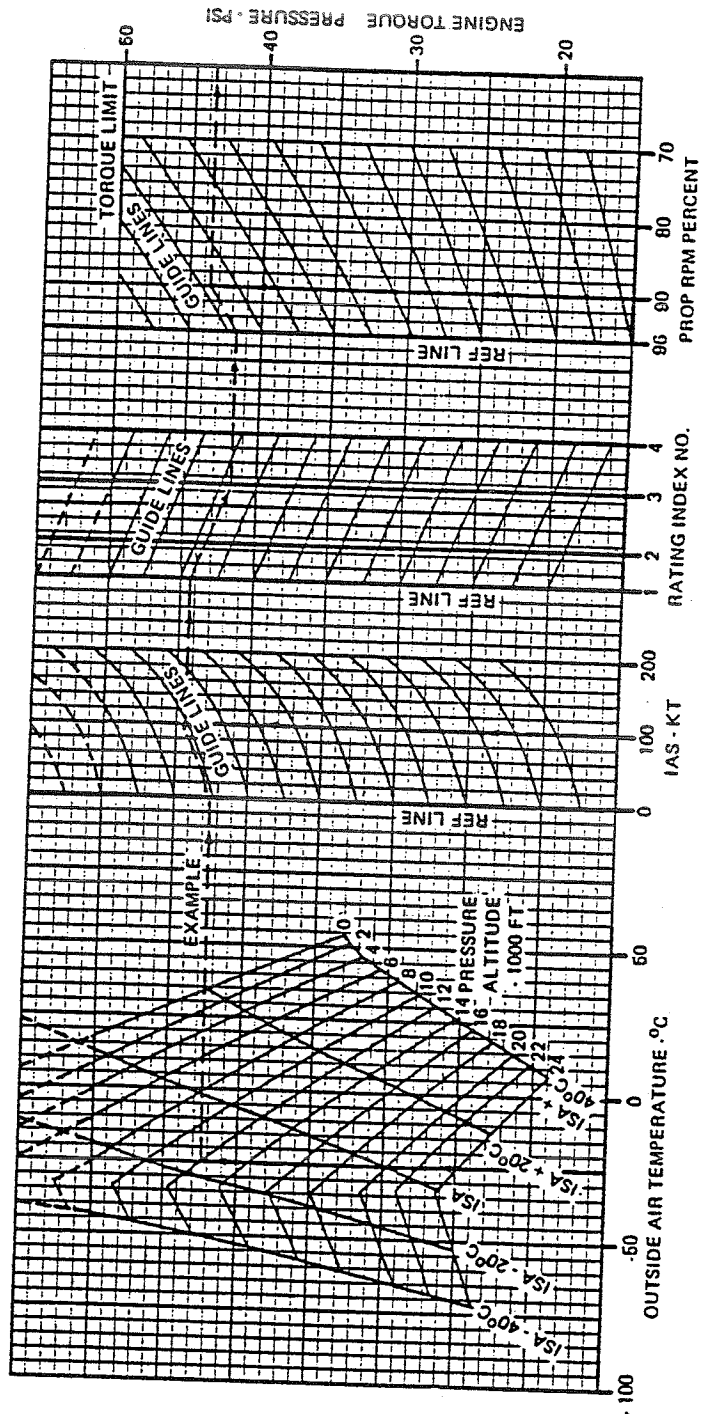

Figure 4-5
4.4.5 MAXIMUM CLIMB AND CRUISE POWER SETTING. Maximum climb and cruise power settings for various altitudes, airspeeds, and temperatures can be obtained from figures 4-5 and 4-6 respectively. The data is corrected for appropriate installation losses.
At an outside air temperature of -25°C , pressure altitude of 12,000 ft, IAS of 100 kt, rating index 3 (heater on, intake deflector retracted), propeller rpm 90%, the maximum climb power torque setting is 43.7 psi (Figure 4-5).